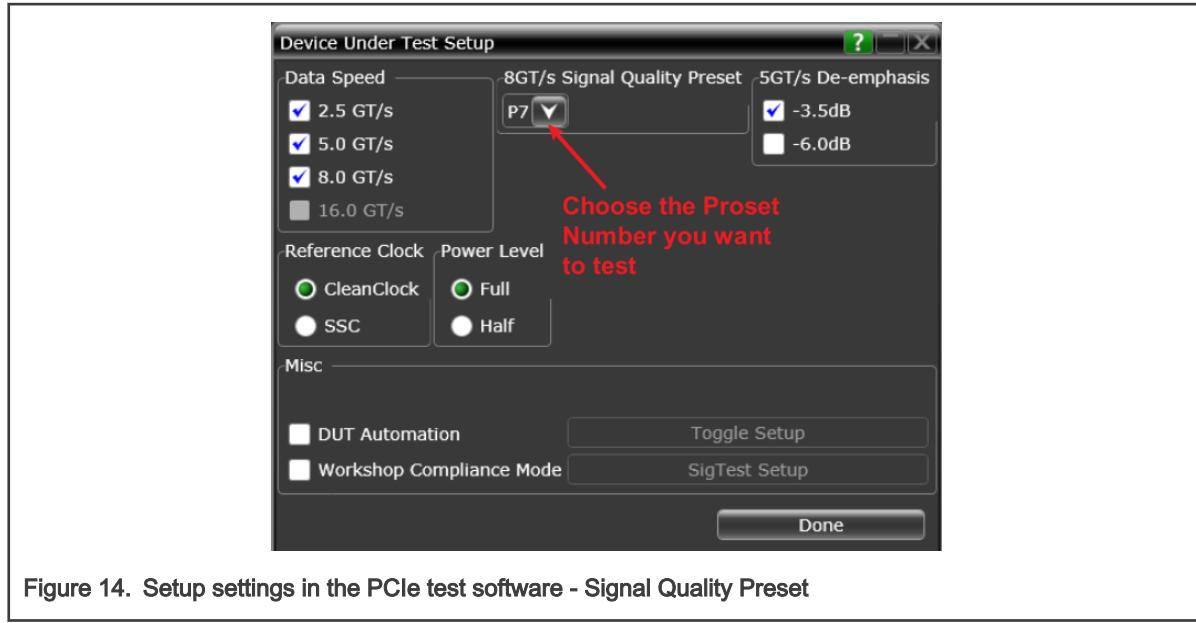

Figure 14. Setup settings in the PCIe test software - Signal Quality Preset
- c. In the **Device Definition** menu, select the corresponding data rate and in the **Reference Clock** menu, select **Clean Clock**, as shown in Figure 14.